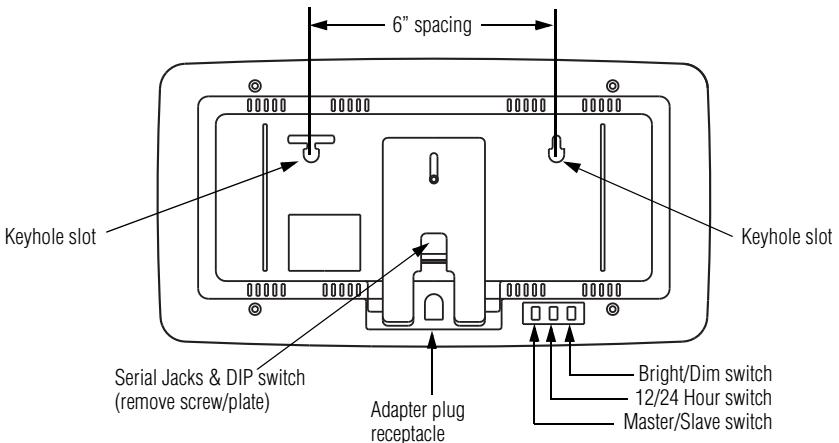

Figure 1: Serial Clock—Rear Panel
The clock is equipped with a small AC adapter with an 18-foot power cord. Connect the power cord to the adapter plug receptacle on the backside of the clock (See Figure 1: Serial Clock—Rear Panel) **before** plugging the adapter into a standard 120V wall outlet.
The master/slave switch is located on the back of the clock, next to the 12/24 hour switch (See Figure 1: Serial Clock—Rear Panel).
To set the hours, press the HOUR button until the desired number is displayed. There is no AM/PM option. If the clock is in 12-hour mode, 1-12 will be the only hours displayed. If the clock is in 24-hour mode, 0-23 will be the hours displayed. Use the 12/24 Hour Switch on the back of the clock (See Figure 1: Serial Clock—Rear Panel on page 7) to set the clock to either 12-hour or 24-hour mode.
A bright/dim switch, located on the back of the clock (See Figure 1: Serial Clock—Rear Panel on page 7), allows you to switch between a bright or a dim display mode to suit your preference.
1. Locate the keyhole slots on the back of the clock, at either end. The slots are placed six inches apart (See Figure 1: Serial Clock—Rear Panel on page 7).
1. Remove the screw and plate on the backside of the clock (See Figure 1: Serial Clock—Rear Panel on page 7).